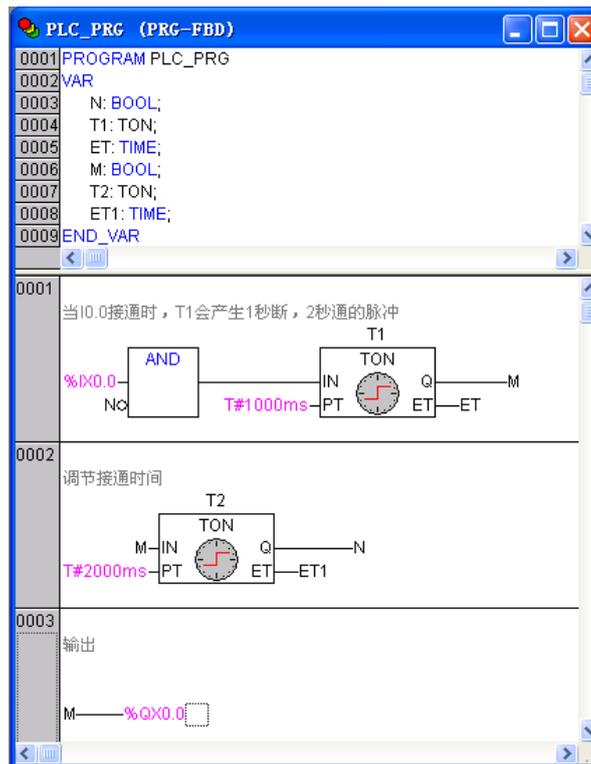

Figure 9-1-4 Example in FBD Language
- An application example in FBD language is shown in figure 9-1-4 to generate a pulse with “1s off 2s on”.